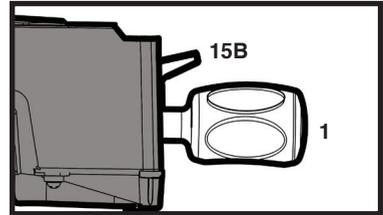

Fig 15
2. Loosen the mitre angle lock knob. (Fig 15 a)
3. Push down the positive stop locking lever. (Fig 15 b)